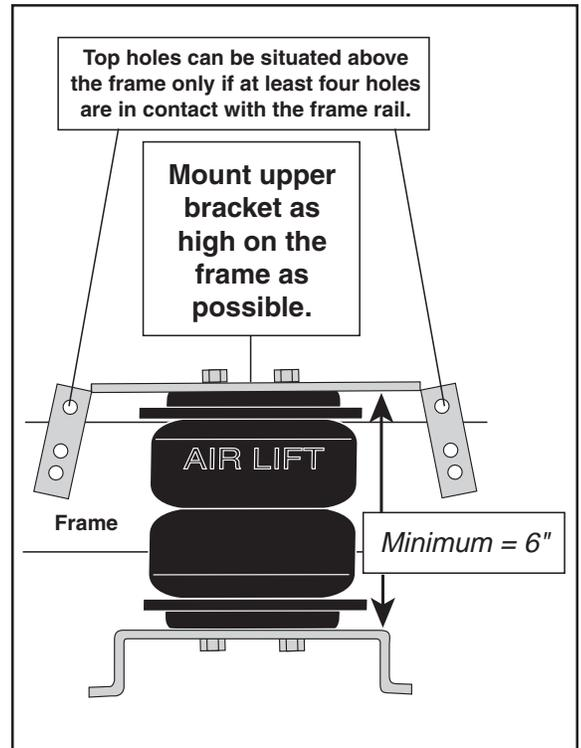

Figure 3
1. Position the upper bracket (B) so that it is parallel with the lower bracket and align the assembly vertically and horizontally.
**NOTE:** Mount the upper bracket as high on the frame as possible. There should be a minimum of 6 inches between the upper and lower brackets (Figure 3). The top two holes may be above or even with the frame. If this is the case, use the two lower holes in the upper bracket for mounting.